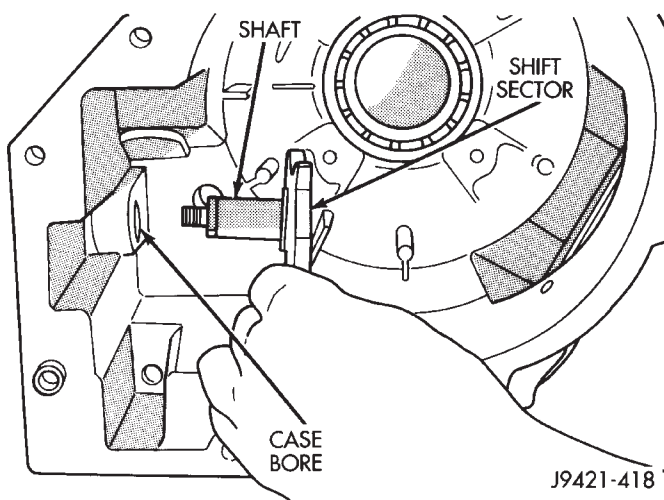

Fig. 51 Shift Sector Installation
(5) Install shift sector in front case (Fig. 51).
(6) Support front case on 3-4 small wood blocks so interior of case is facing up. Position blocks between studs on front case.